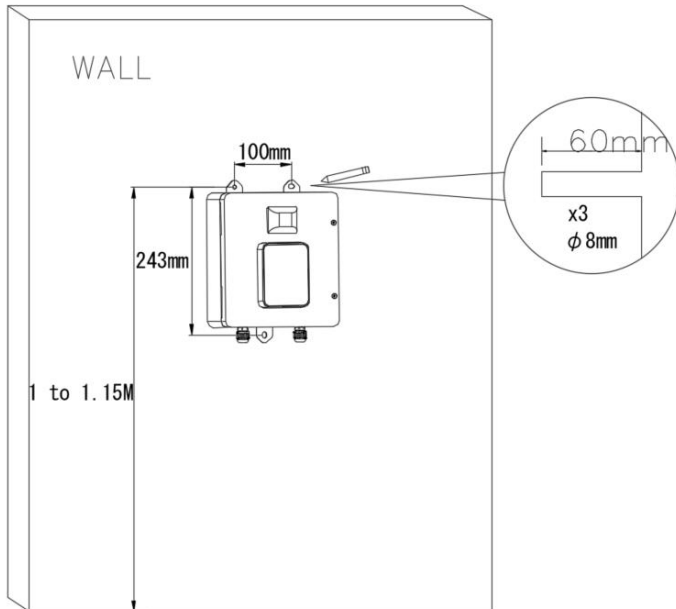

Figure 4-26 Positions of drill holes
(12) Installing payment terminal (if necessary)
- Take the payment terminal as a template and mark the positions of drill holes on the connector with a pencil. Drill holes at the marked positions with a $\phi 8$ drill. The effective length of drill is not less than 80mm (as shown in Figure 4-26).